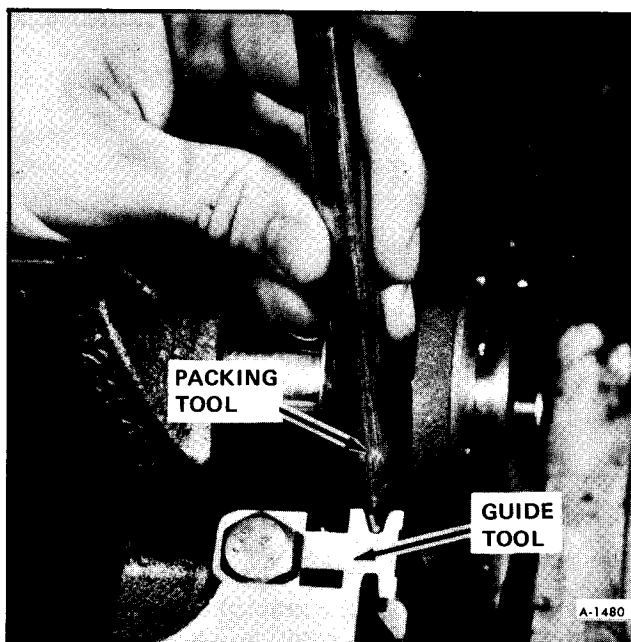

Figure 74—Packing Seal Into Guide and Cylinder Block
6. Work these two pieces of seal into the cylinder block (one piece on each side) with two small screwdrivers. Use guide tool J-21526-1 as shown in Figure 73. Using packing tool, pack these short pieces up into the block. See Figure 74.